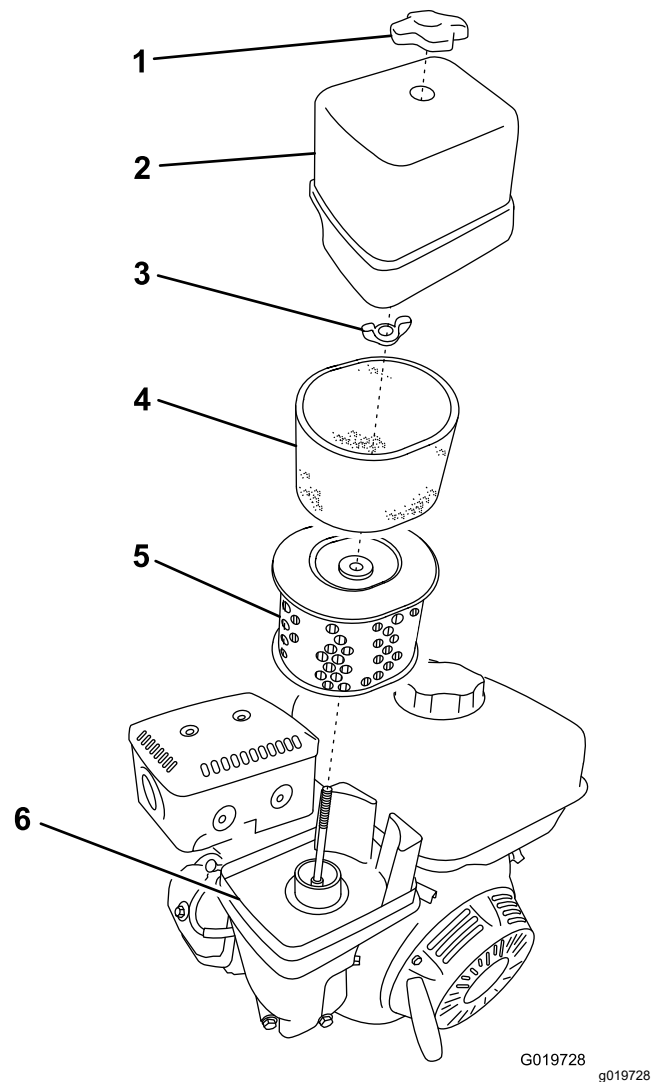

Figure 38
3. Remove the nut that secures the cover (Figure 38).
- Remove the foam and paper elements from the base (Figure 38).
- Remove the foam element from the paper element (Figure 38).